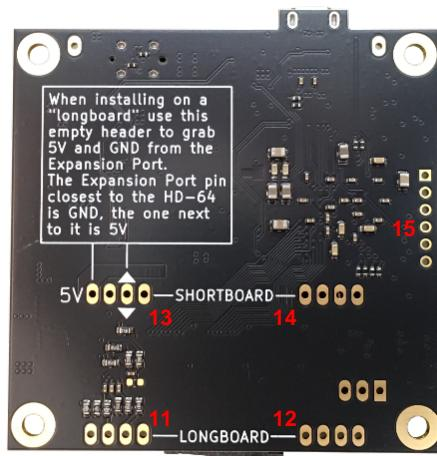

Figure 5. HD-64 Legend (Bottom)
- The Shortboard provides the necessary supply voltages (5v and GND) directly on the RF-Modulator header on the motherboard. The Longboard does not provide either, therefore when installing the HD-64 on a Longboard requires feeding the supply lines externally (Header 13, Figure 5). The process is explained in more detail in Section 3.3.1
2. Solder two supply wires (AWG 22-24) to the pins marked as "5v" and "ground" (triangle) on Header-13 (Figure 5)